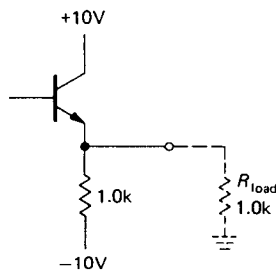
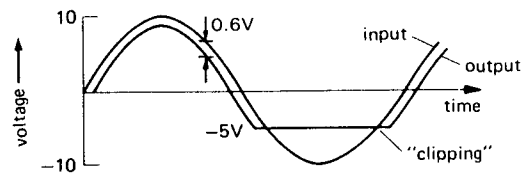

Figure 2.8. An *npn* emitter follower can source plenty of current through the transistor, but can sink limited current only through its emitter resistor.
Figure 2.9. Illustrating the asymmetrical current drive capability of the *npn* emitter follower.
1. Notice (Section 2.01, rule 4) that in an emitter follower the *npn* transistor can only "source" current. For instance, in the loaded circuit shown in Figure 2.8 the output can swing to within a transistor saturation voltage drop of  $V_{CC}$  (about +9.9V), but it cannot go more negative than -5 volts. That is because on the extreme negative swing, the transistor can do no more than turn off, which it does at -4.4 volts input (-5V output). Further negative swing at the input results in backbiasing of the base-emitter junction, but no further change in output. The output, for a 10 volt amplitude sine-wave input, looks as shown in Figure 2.9.